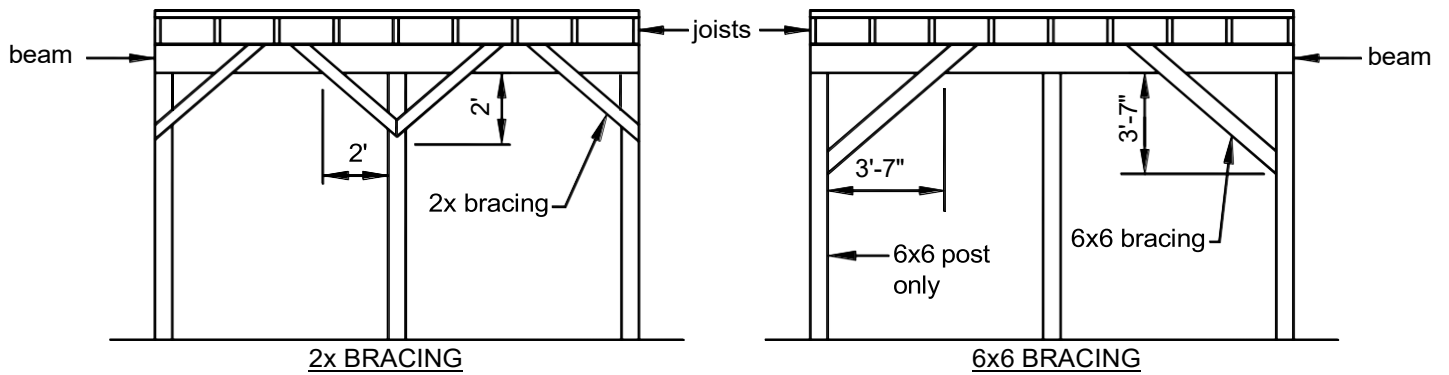

**FIGURE 22: TENSION TIE LOCATIONS ON
- Tension-ties (four total) shall be installed at the end joist and first inside joist at each end of the deck as shown in FIGURE 22. A set of tension-ties shall be installed for each structurally independent section of a multi-level deck. (Options ties can be spaced equally apart along the deck ledger).